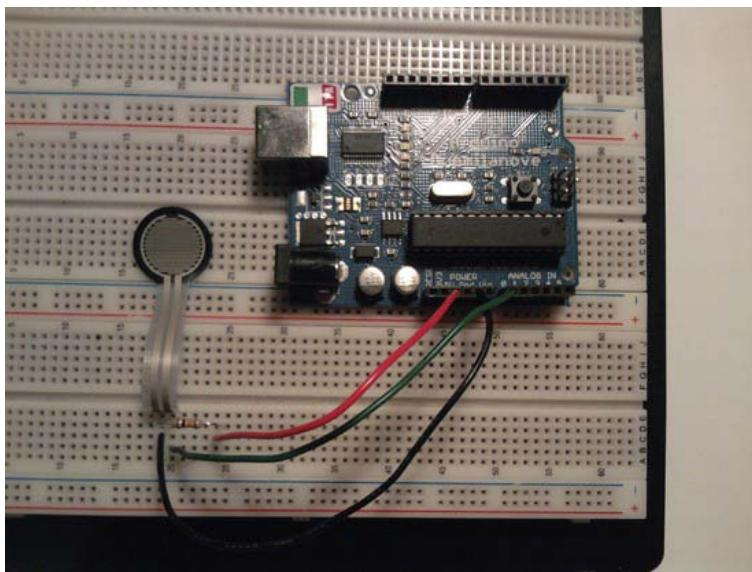

Figure 6-15. Hardware configuration for this project
6. Finally, put some double-sided tape on the back of the FSR and connect it to the breadboard. Figure 6-15 illustrates the hardware configuration for this project.